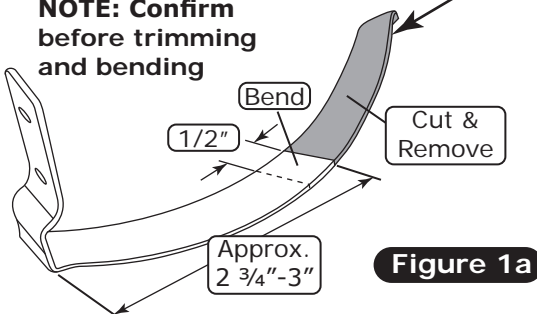

Figure 1a
10. Modify the passenger-side glove box door arm as shown in Figure 1a, below. **NOTE: The glove box door travel will be restricted to prevent interference with evaporator case assembly.**